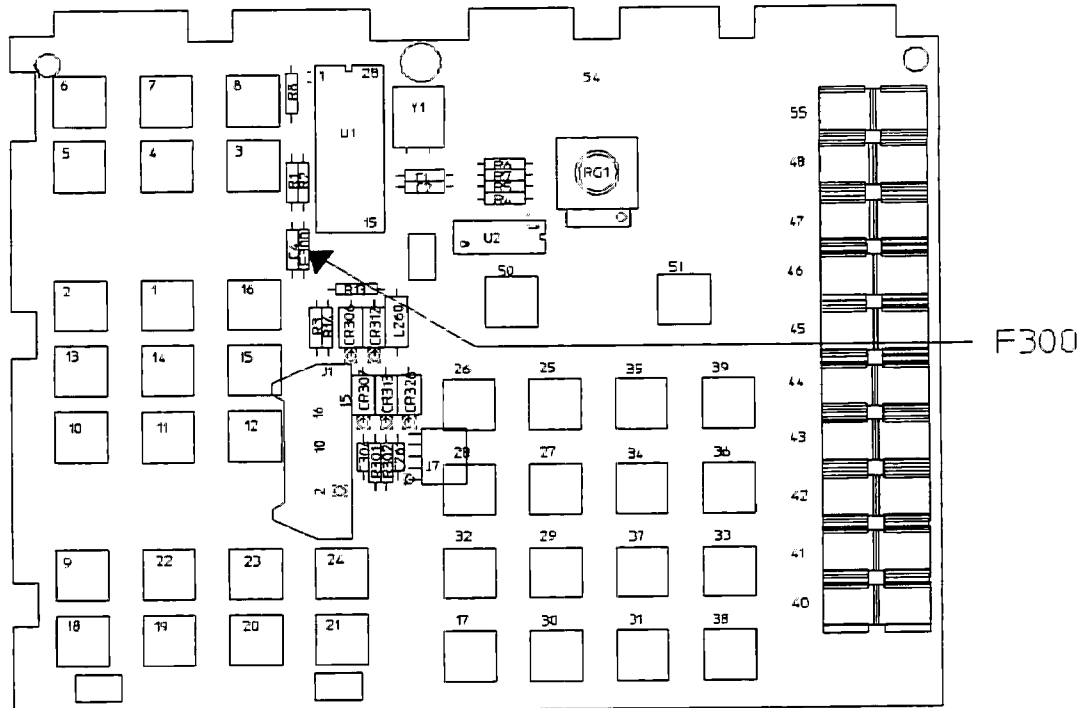

Figure 4-24. A72 Component Locator
4. If the voltage is not correct, replace A72 F300 (see figure 4-24).